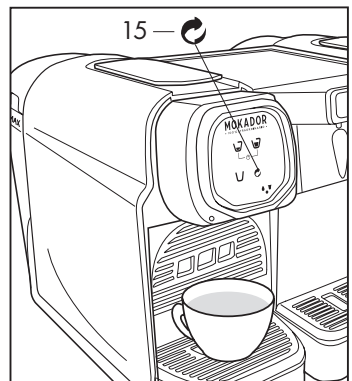

Fig. 13
- Press symbol (15) to activate the rinse function (Fig.13). Press the same key to stop the function.